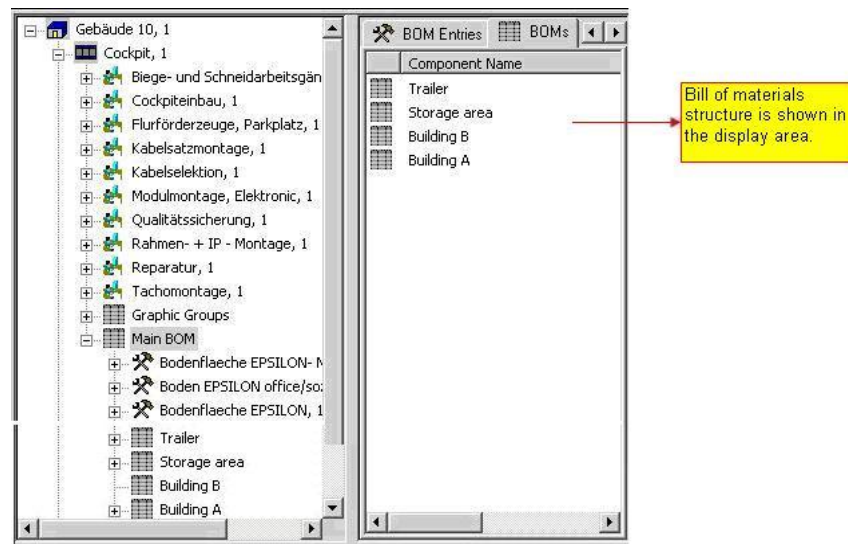

Figure 31: Bill of Materials Structure in the Display Area
- 1) Select the bill of materials level – this is the main bill of materials in the Figure 31 – and press the right mouse button.